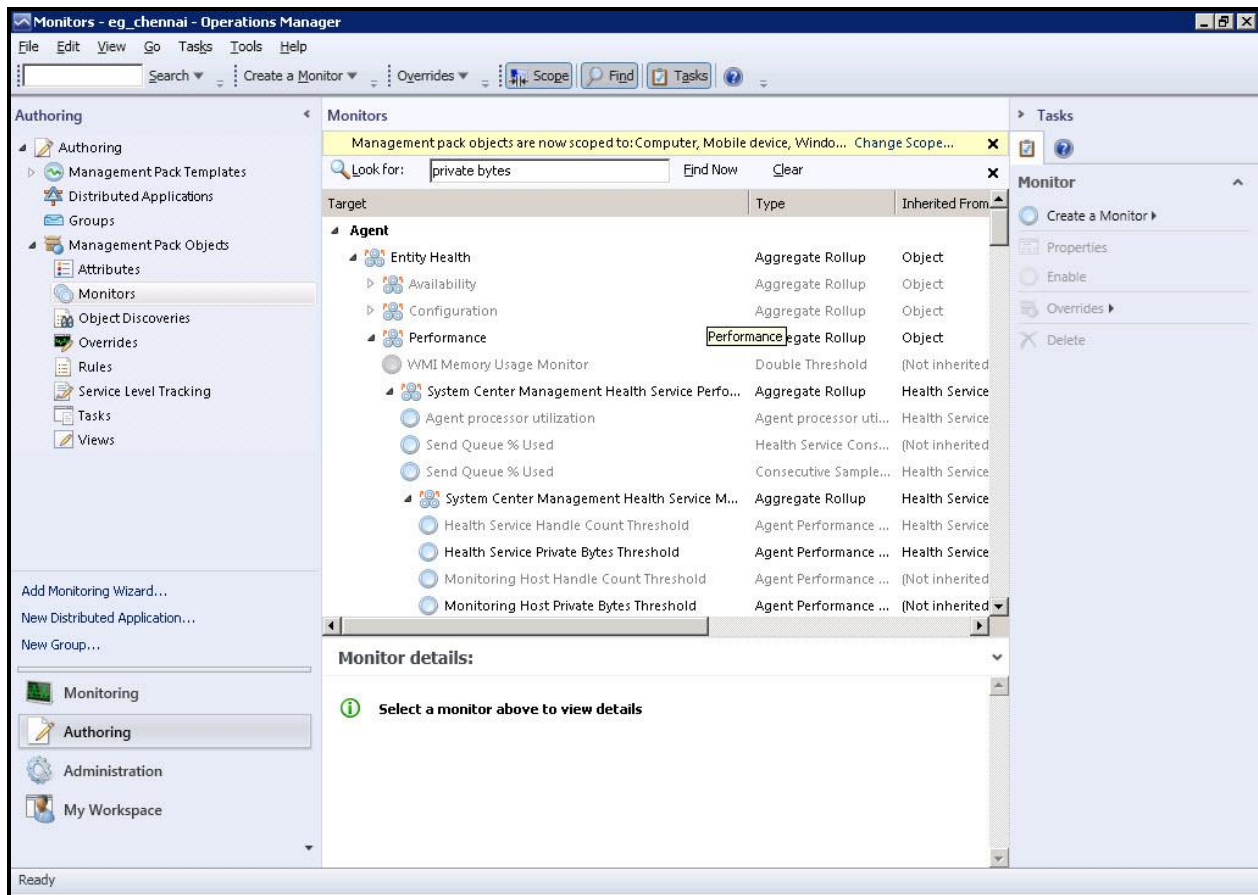

Figure 2.15: Looking for 'private bytes' in the list of monitors
2. When Figure 2.15 appears, expand the **Management Pack Objects** node in the tree-structure in the left panel of Figure 2.15, and select the **Monitors** sub-node within. The right panel will then change to display a variety of monitors. Next, using the **Look for** text box just above the list of monitors in Figure 2.15, type **private bytes**, and click **Find Now**.